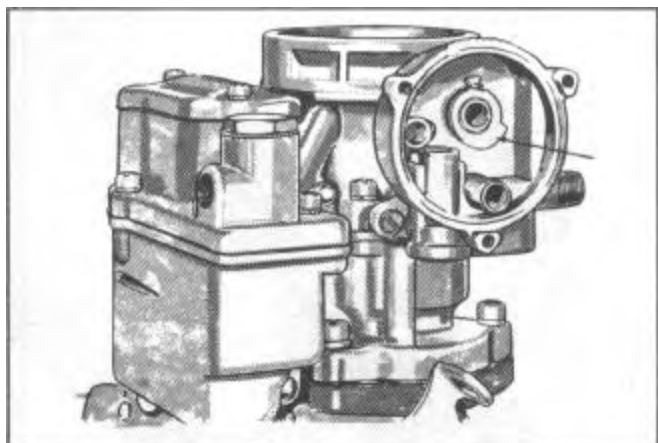

FIGURE 85
21. Install fast idle cam and spring as indicated by arrow, Figure 85.